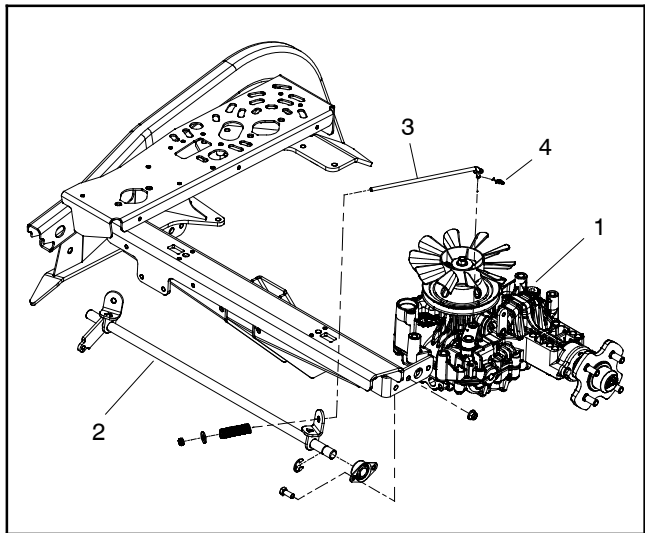

Figure 45
10. Disconnect brake lever from transmission brake lever (Fig. 45).
4. Connect brake lever to transmission brake lever and secure with locking cotter pin (shown in Fig. 45).